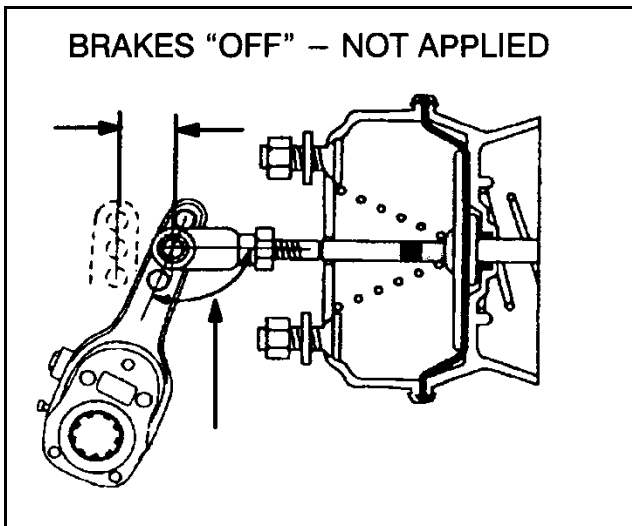

Figure 21 Brakes Off - Not Applied
8.1. BRAKES OFF - NOT APPLIED (FIGURE 21(SEE FIGURE 21, PAGE 18))